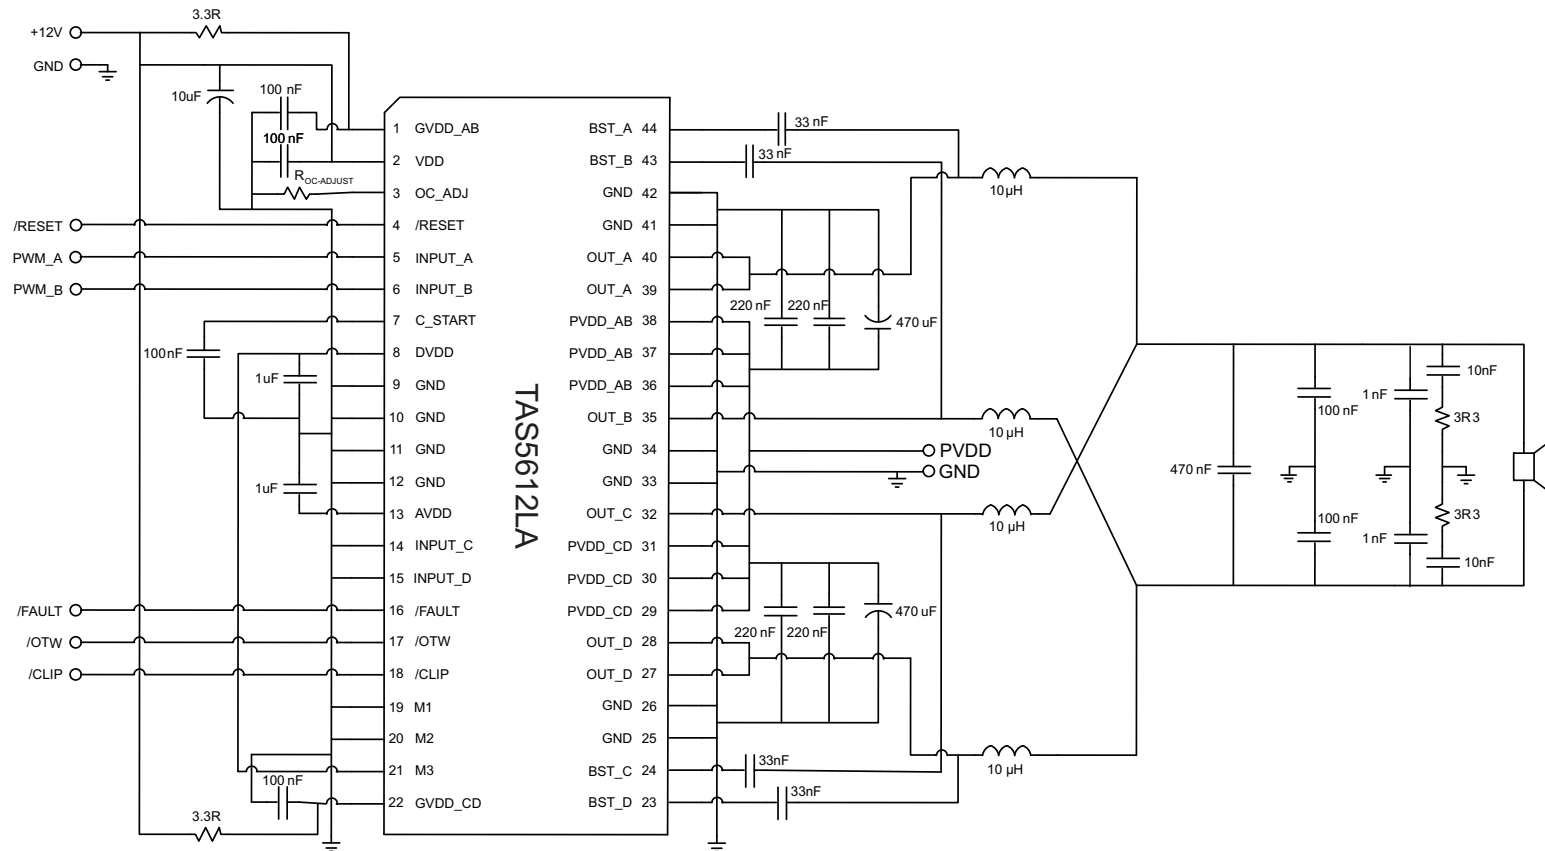

图 19. Typical Differential (2N) PBTL Application With AD Modulation Filter
See 图 19 for application schematic. In this application, one differential PWM input is used with AD modulation from the PWM modulator such as the TAS5558. AD modulation scheme is defined as PWM(+) is opposite polarity from PWM(-). The output PBTl configuration is often used to drive lower impedance load such as a subwoofer.
- Pins 27, 28, 32, 35, 39, 40 - Output pins from half-bridges A, B, C, and D. Connect appropriate bootstrap capacitors and differential LC filter as shown in 图 19.
- Pins 29, 30, 31, 36, 37, 38 - Power supply pins to half-bridges A, B, C, and D. A and B form a full-bridge and C and D form another full-bridge. A 470-uF bulk capacitor is recommended for each full-bridge power pins. Two 0.22-μF decoupling capacitors are placed on each full-bridge power pins. See 图 19 for details.